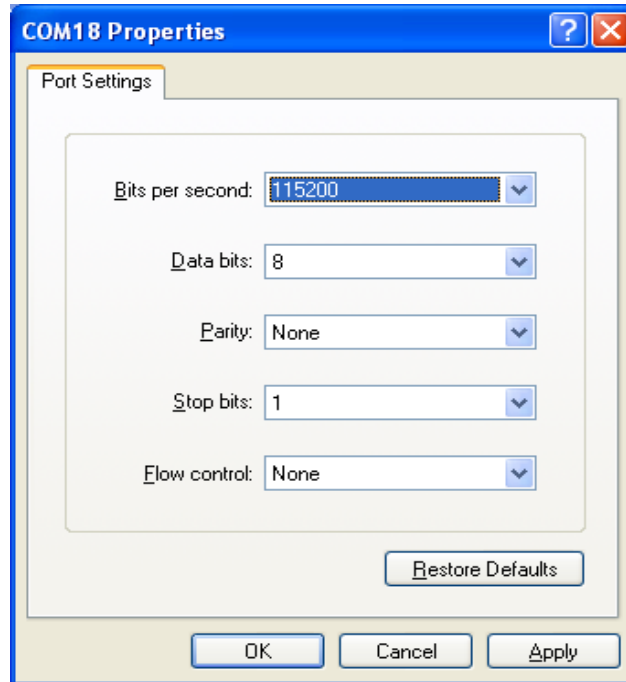

Figure K-26. COM properties
Step 4. After selecting the COM port, configure baud rate and other properties as shown in Figure K-26 (Baud rate: 115200, Data bits: 8, Parity: None, Stop bits: 1, Flow control: None)